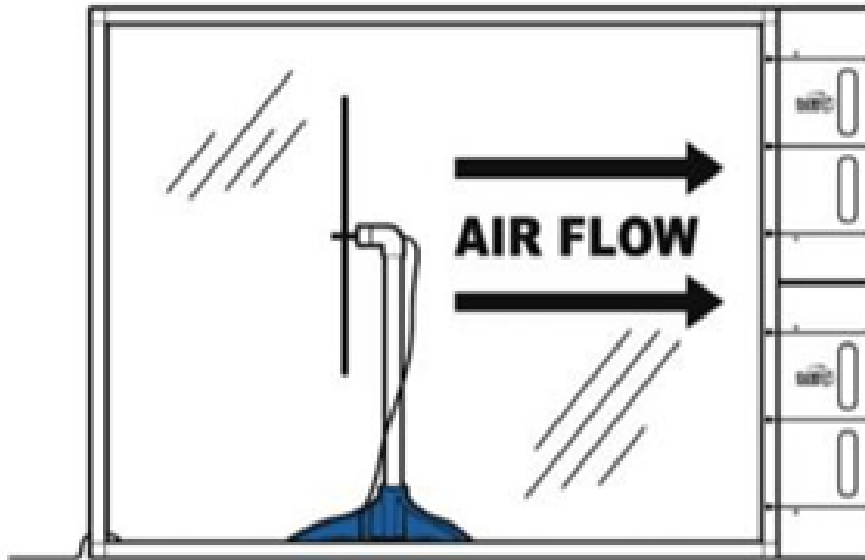

Figure 3 The airflow direction inside the wind tunnel ¹
2.3.3 The specification of the wind tunnel : The average wind speed is 3.6 m/s at a distance of 30 cm within the opening. The wind tunnel is of negative pressure (suction) type. (As shown in Figure 3) It generate a uniform flow.